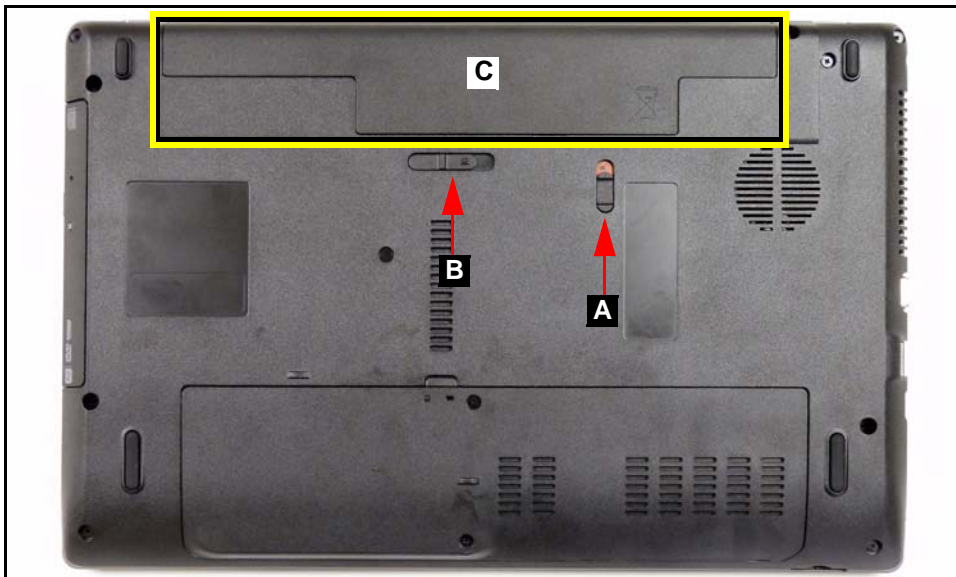

Figure 3-3. Battery
2. Push battery lock/unlock latch (A) to unlock position. (Figure 3-3)
3. Push and hold battery release latch (B) to release position. (Figure 3-3)
4. Lift battery pack (C) from battery bay. (Figure 3-3)
Follow local regulations for battery (C) disposal. (Figure 3-3)
1. Hold latch (B) in release position and install battery (C). (Figure 3-3)
2. Lock battery lock/unlock latch (A). (Figure 3-3)